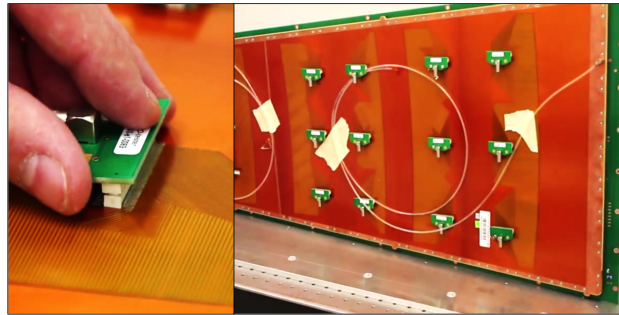

Figure 115: Testing the induction gap (1).
Step 8: In this configuration, the induction gap can be tested as well. To do so, connect the Panasonic-to-Lemo adapter on one of the readout sectors (Fig. 115 left).